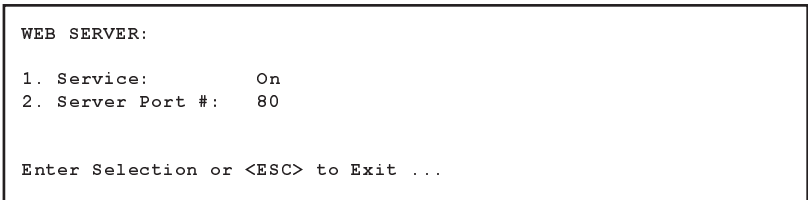

Figure 5.13: Web Browser Parameters Menu - Text Interface
**Text Interface:** Type `/w` and press **[Enter]**. The Web Server Parameters Menu will be displayed as shown in Figure 5.13.